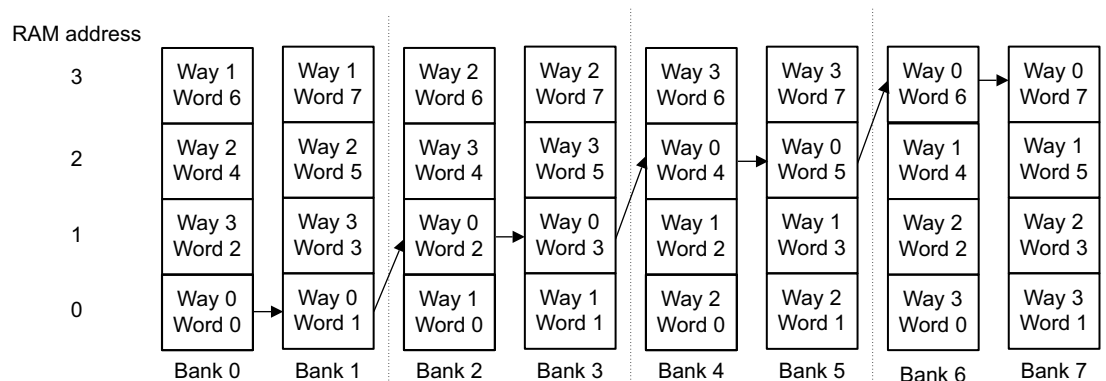

Figure 8-4 Sequential read operation performed with one RAM access
- Select the appropriate bank RAM for sequential read operations. Figure 8-4 shows this.
Figure 8-4 shows the appropriate bank RAM being selected for a sequential read operation.